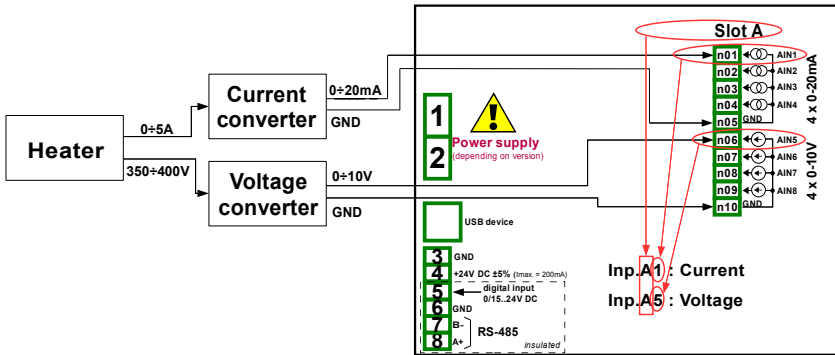

Fig. 7.52. Schematic diagram for the **UI4** module
Before configure the device, connect the heater to converters and then to the device (in accordance with Fig. 7.52).
- choose as the source - **Inp. A1: Current** (see the connection in Fig. 7.52), press the **Source configuration** button to set the source configuration options,
- choose as the source - **Inp. A5: Voltage** (see the connection in Fig. 7.52), press the